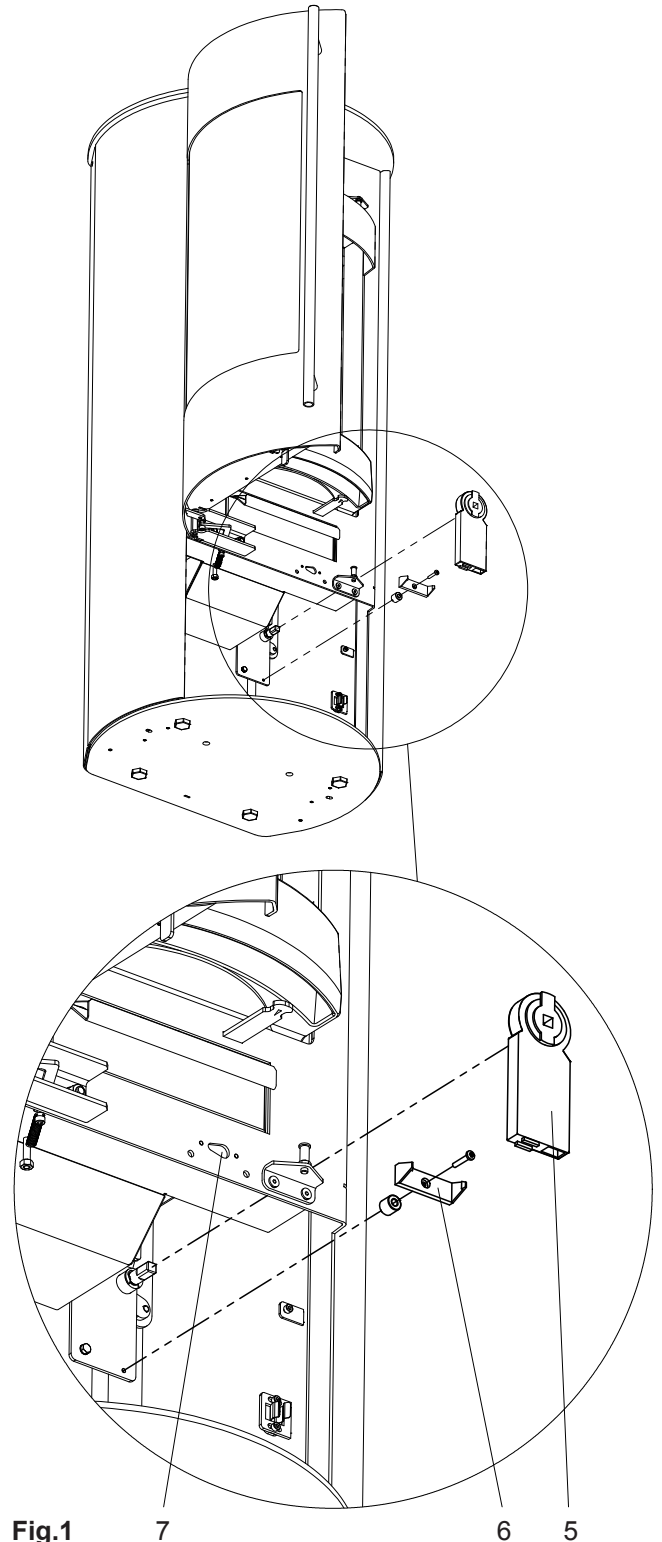

Fig.1
- Tighten the motor retaining clip (6) with the spacer sleeve to the motor console. Push the servo-motor (5) onto the rotation axis of the air regulator lever and snap into the motor retaining clip (Fig.1).
- Install the door contact switch (fastening position, see Fig.1), the temperature sensor and the cord for the power supply as described in the OEC instruction manual.